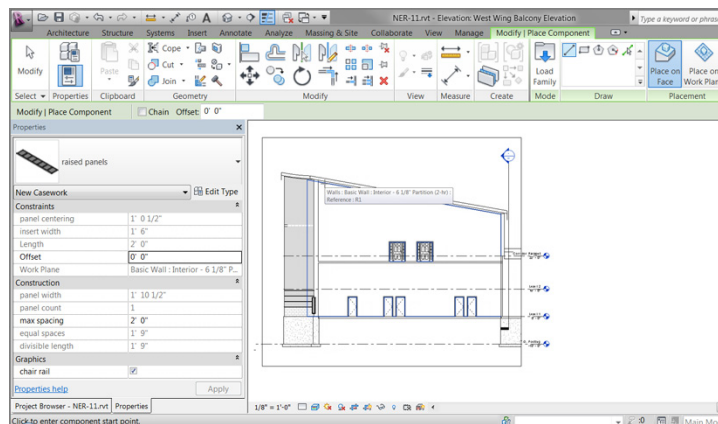

FIGURE 10.78: Picking the far wall to establish a work plane
8. Pick a point, as shown in Figure 10.78; then press Esc.
13. Scroll down the Type Selector list until you find **Raised Panels** (see Figure 10.78).
15. Pick the far wall (see Figure 10.78). If you don't have the raised panel family, you can download it at the book's web page; it's called **Raised Panel.rfa**. Once it's downloaded and loaded into the model, proceed with the next step.